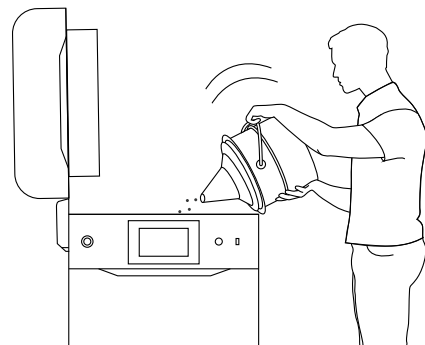

Fig. 6.6 Filling the print chamber with powder using a funnel.
5. Once the positioning process is finished, fill the Feed Bed up with the desired powder. You may use the powder funnel provided in the Dedicated Powder Tools (fig. 6.6). Press **DONE**.